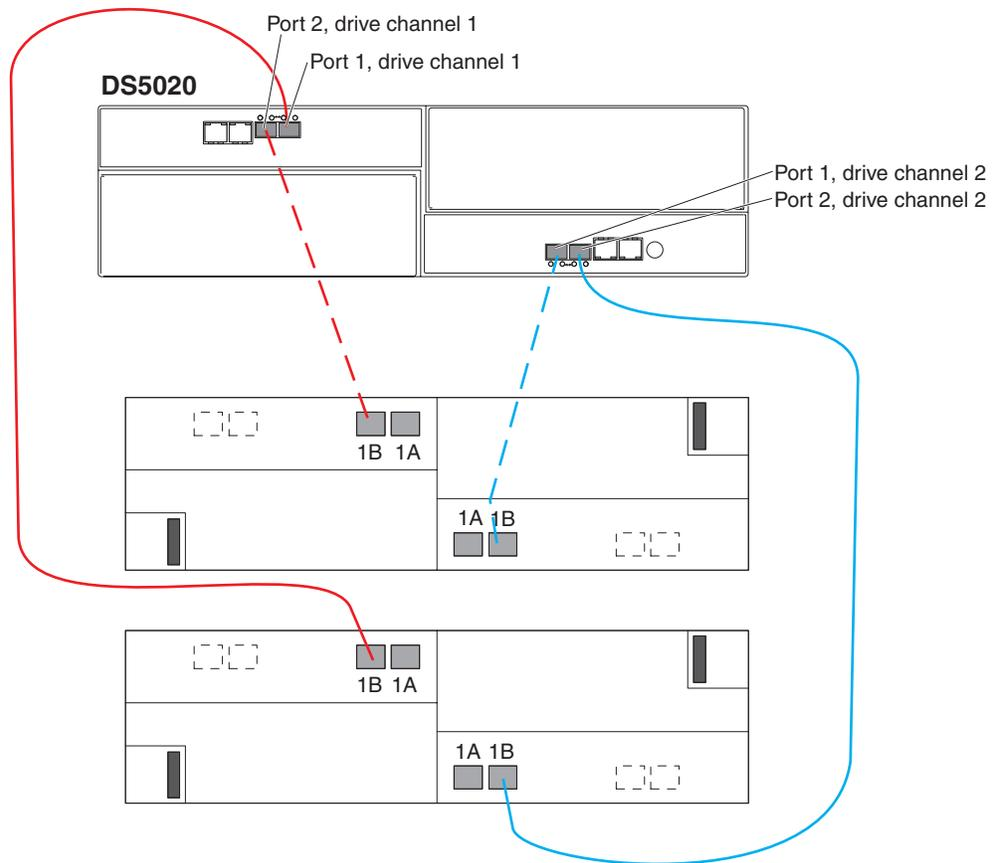
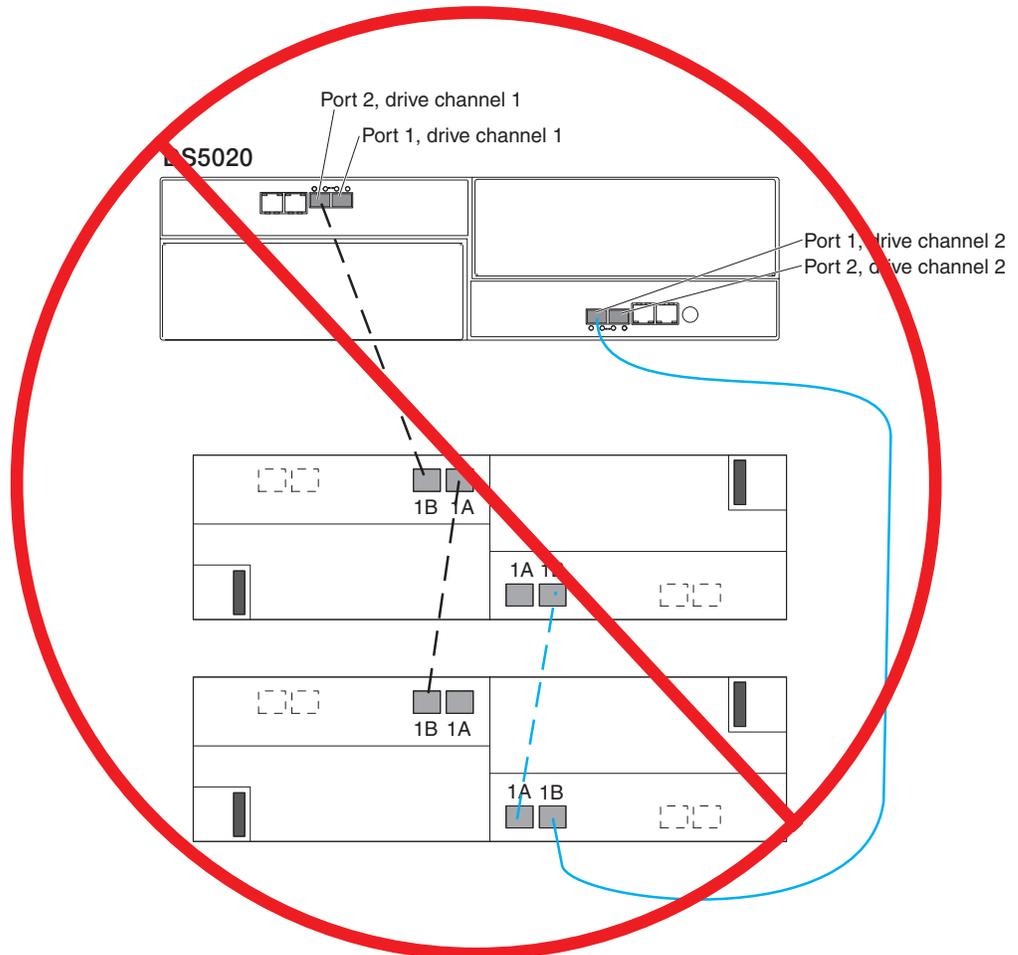

Figure 38. Cabling for one DS5020 and two storage expansion enclosures
Figure 39. Incorrect cabling of one DS5020 and two storage expansion enclosures
If you are cabling one DS5020 storage subsystem and two storage expansion enclosures, connect one storage expansion enclosure per controller drive port as shown in Figure 38. Figure 39 on page 61 shows that you can also connect two expansion enclosures together behind a single controller drive port. Although this is technically correct, use the topology as shown in Figure 38.
As Figure 38 shows, when you connect additional storage expansion enclosures, you can connect them by using the additional port of the drive channel.
**Important:** Do not cable the DS5020 storage subsystem and two storage expansion enclosures as shown in Figure 39. A storage array with the incorrect storage topology might appear to be functional, but incorrect cabling can potentially have unpredictable results.